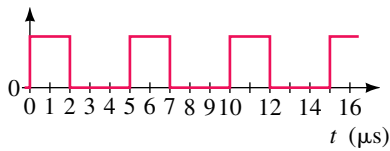

FIGURE 11-63
39. Consider the waveform of Figure 11-63.